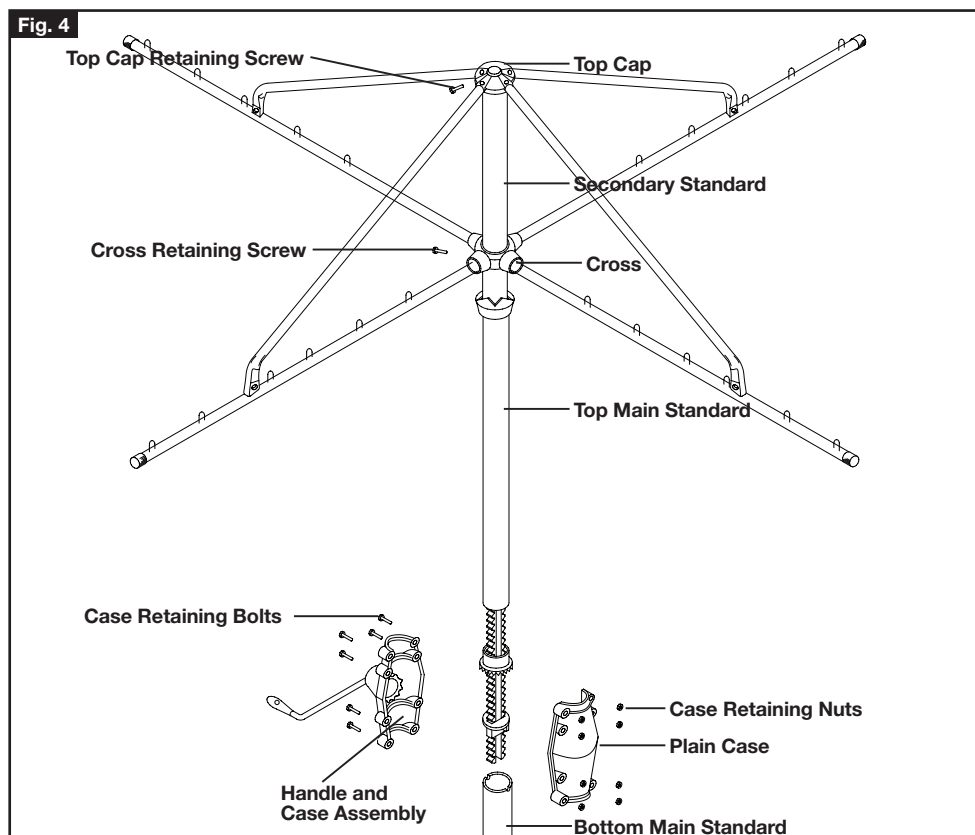

Fig. 5
2. Screw the Crown Wheel onto the new Worm from the hook end. **Fig. 5.**
3. Fit the new Conical washer onto the Worm. Attach the Worm and Crown assembly to the bottom of the Secondary Standard. **Fig. 5.**